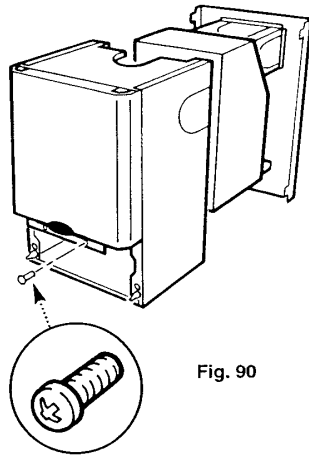

Fig. 90
6. Remove the outer case from the boiler by unscrewing the two screws and lift the case clear (Fig. 90).